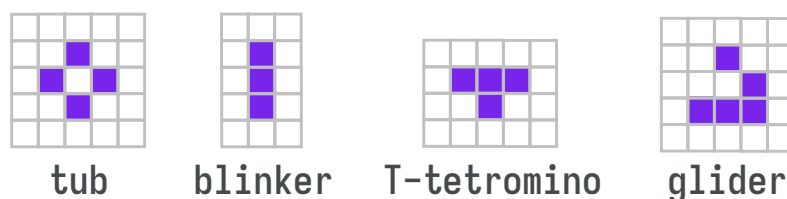

Figure 4 - Interesting patterns in **GoL** : stable structures, oscillators, and gliders
- At startup in `gol_init`, the system must display a default grid pattern on the screen without any user interaction from the **GoL Viewer**. The grid must be 32x32 cells and contain a *blinker pattern* in the center of the gamefield - Figure 4.
These simple rules create fascinating emergent behaviors including stable patterns, oscillators, and moving structures called “gliders” as shown in Figure 4:
The **gol_init** function is called at startup and must initialize the grid with the default pattern - a *blinker* in the center of the grid - Figure 4.
3. Initialize the grid pattern at startup by placing a blinker - Figure 4 - in its center.